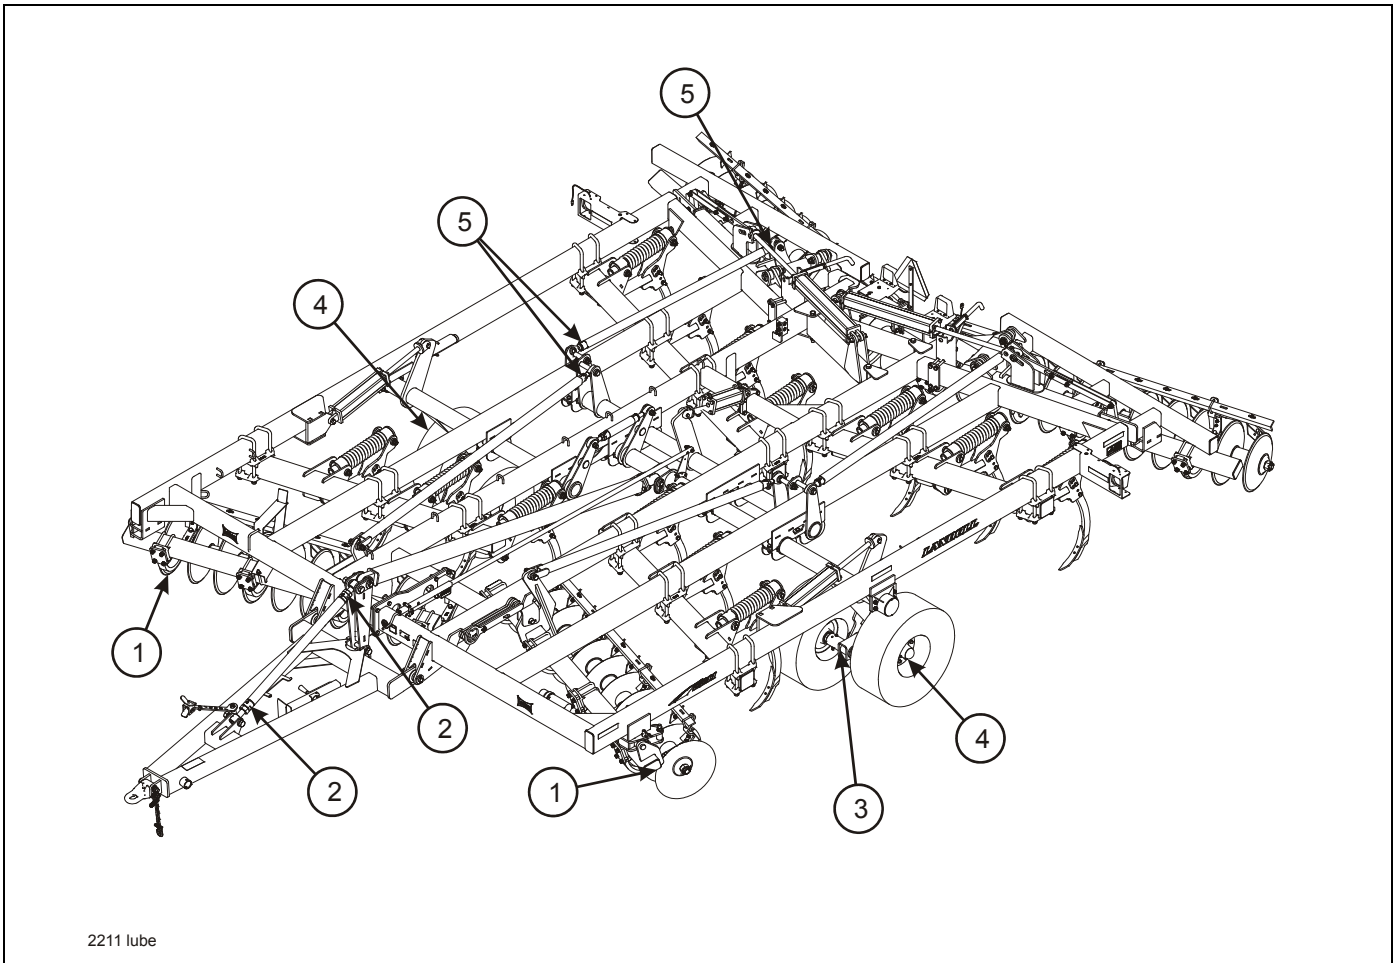

Figure 4-15: Lubrication Schedule
1. **Table 4-1** specifies the lubrication points and intervals on the 2211 Ripoll. Proper maintenance of your machine will, under normal operating conditions, help to keep it operating at or near its peak performance for an extended period of time. Proper maintenance is also a condition of keeping your warranty in good status (**See Figure 4-15.**)